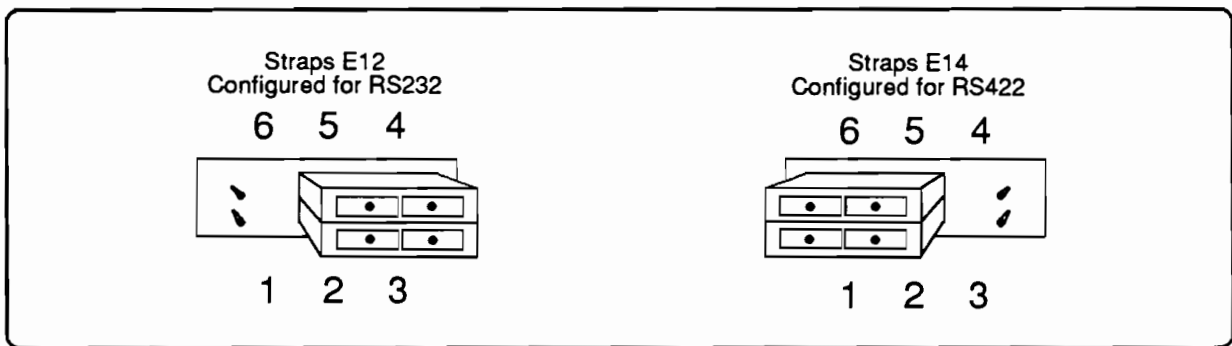

Figure 3-1. RS232 or 422 Strapping
4. Use straps E12 on the I/O board near the data cable connector to configure the printer for RS232 or RS422 operation. Place the jumpers on the straps as indicated in Figure 3-1.